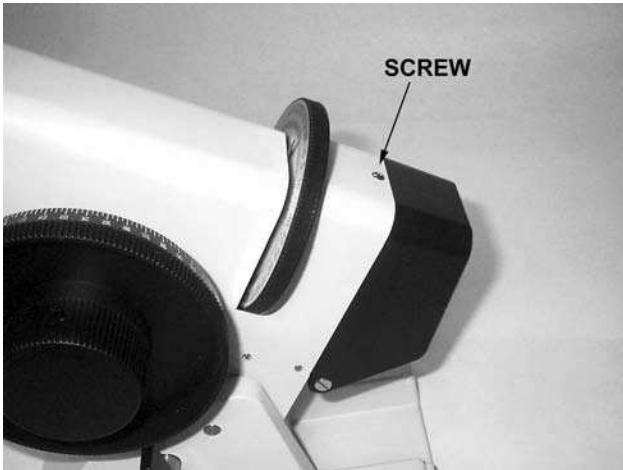

Fig. 3
1. Remove the screw (Figure 3) that secures the battery compartment .